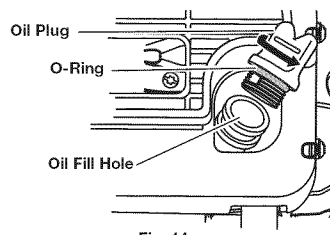

Fig. 14
4. Remove the oil plug (Fig. 14).
NOTE: Make sure the O-ring is in place on the oil plug when checking and changing the oil (Fig. 14).